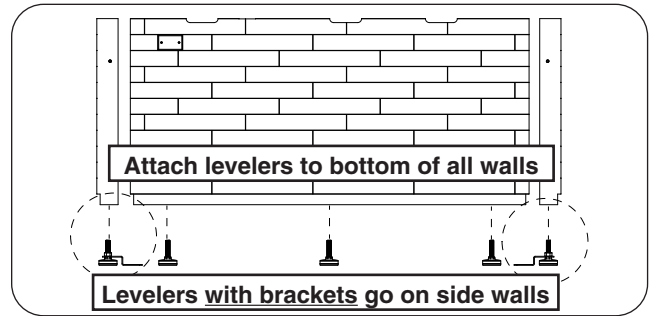

Fig. 7-1 Attach levelers
2. Carefully lay down all pieces that make up the island base and attach the levelers (see Fig. 7-1).
Note: 4 of the levelers have floor mounting brackets pre-installed. Use 2 on each side wall. See Fig. 7-1.